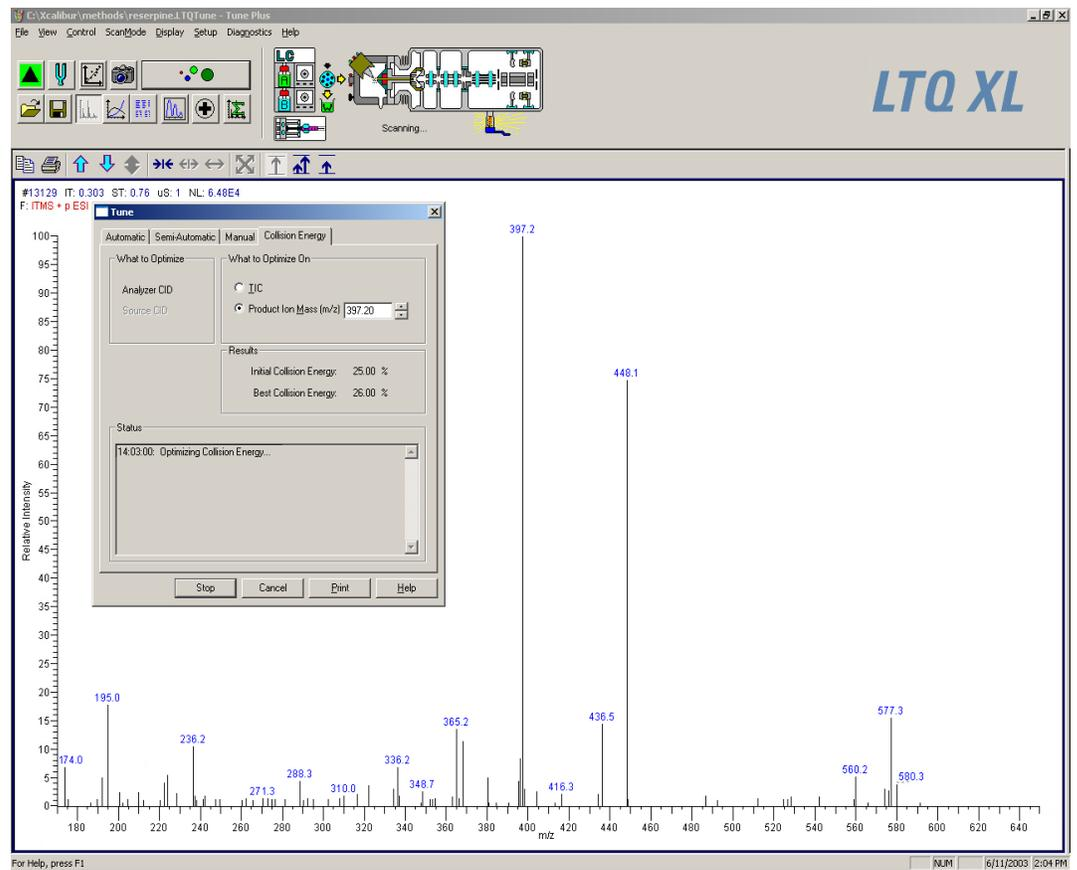

Figure 41. Tune Plus window, showing MS/MS product ions of reserpine in the Spectrum view
2. Click **OK** to close the message box, and leave the Tune dialog box open. Your Tune Plus window should now look similar to the one shown in Figure 41.